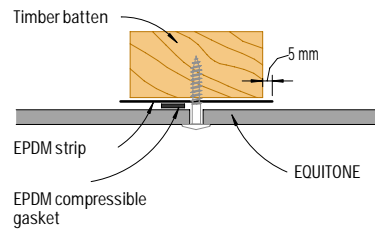

Figure 6: Intermediate panel fixings connection
2) In Figure 6 & 7, the metal strip should be fixed ONLY to one of the battens (either left or right) where allowance for horizontal and/or vertical movement of the cladding frame is required.